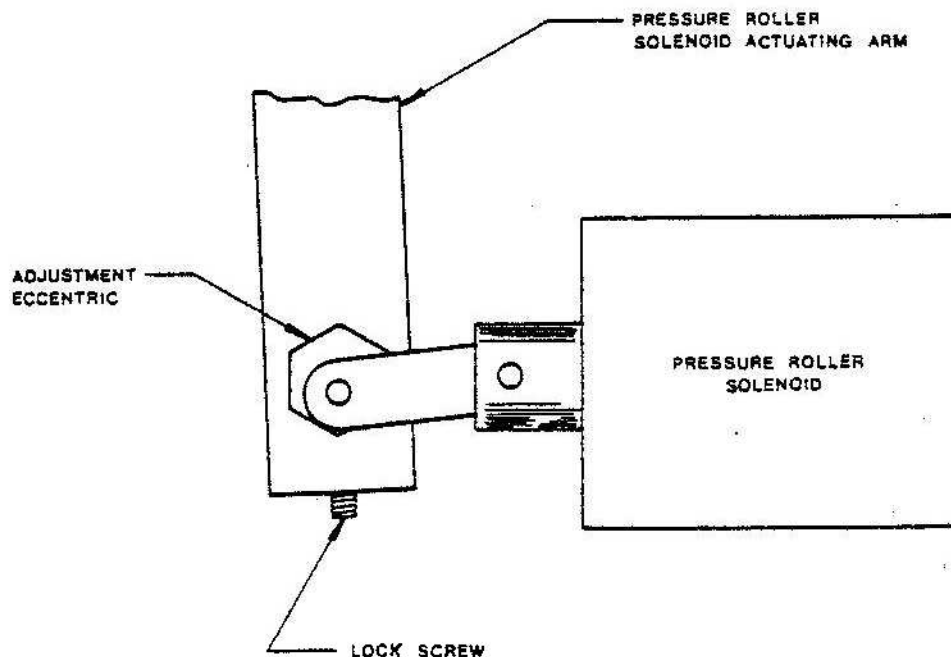

FIG. 2 - PRESSURE ROLLER SOLENOID ADJUSTMENT
- 5.2.1 The pressure roller solenoid is also designed to be acoustically quiet and hence must be adjusted so that it does not pole. Refer to figure 2 for adjustment points.